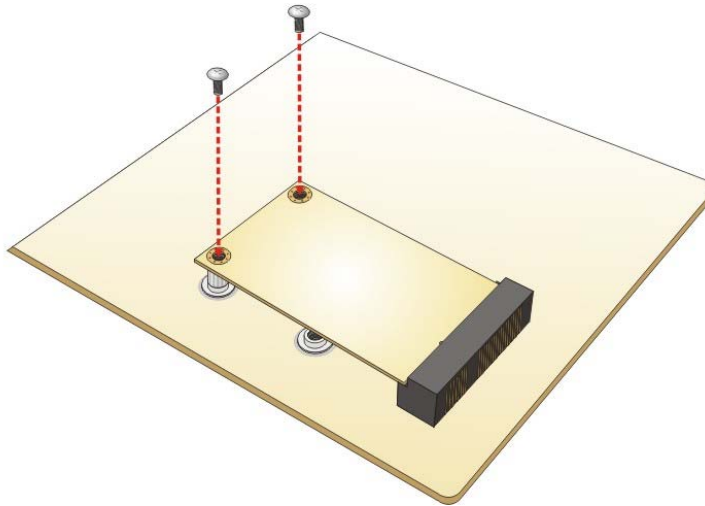

Figure 3-11: Securing the PCIe Mini Card
Step 5: Secure the PCIe Mini card. Secure the PCIe Mini card with the retention screws previously removed (Figure 3-11).